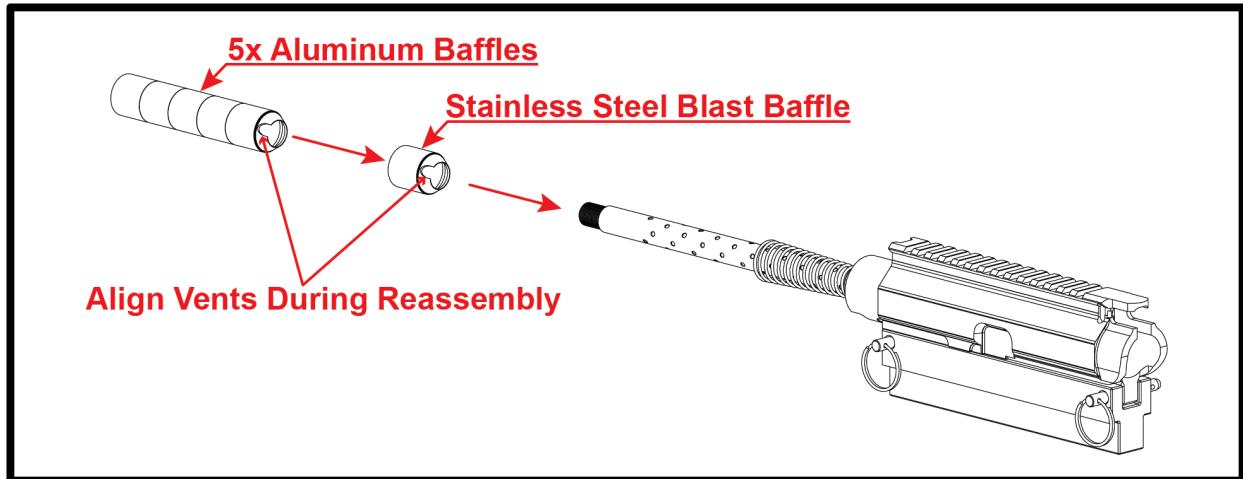

FIGURE 14.2 - Install the Baffle Stack
Step 2 — Install the Baffle Stack (FIGURE 14.2)